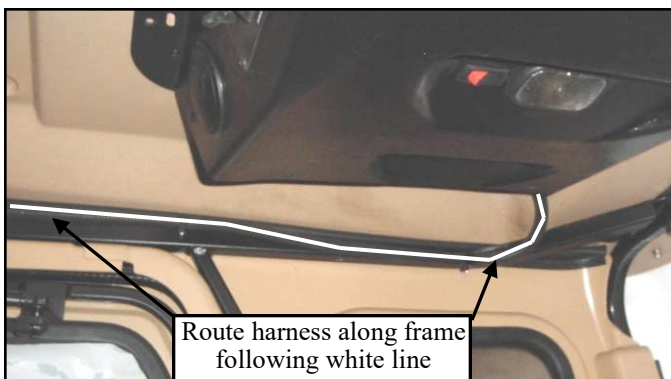

Figure 2.5 (view from passenger's side)
2.5 Route wire harness rearward along upper frame tube on cab as shown in fig. 2.5. Use zip ties and p-clamps with #10 self drilling/tapping screws to attach to roof support tube.